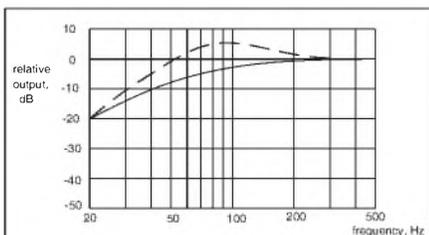

FIGURE 12: Sample frequency responses for driver in sealed cabinet (solid line: $Q = 0.5$, dashed line: $Q = 1.2$).
For example, if you design a speaker system that resonates at 60Hz, and you try one design with a system Q_T of 0.5 and another with Q_T of 1.2, you can plug equation (10) into a graphing program such as MathCAD® or a spreadsheet or a graphing calculator, and come up with the responses shown in Fig. 12.